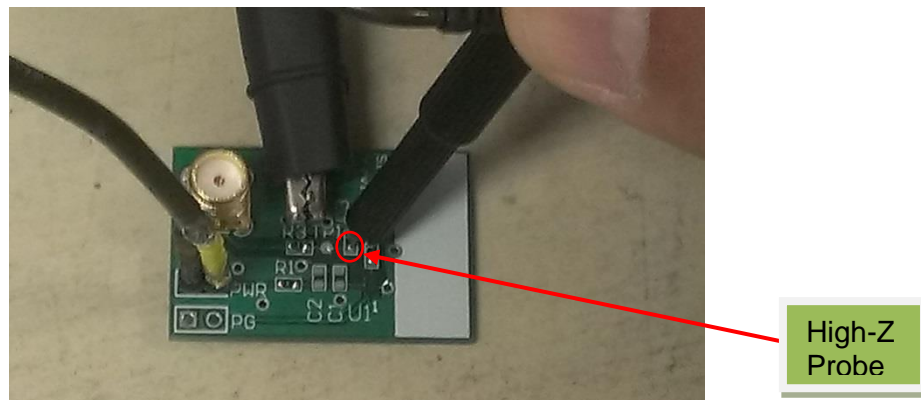

Figure 3: Probing a SiT15xx output with a high impedance Tektronix Probe P5050. For information on probing, refer to application note AN10028 [2].
2. Use a high impedance probe ($> 1\text{ M}$ parallel $< 2\text{ pF}$) similar to a Tektronix P5050 shown in Figure 3.